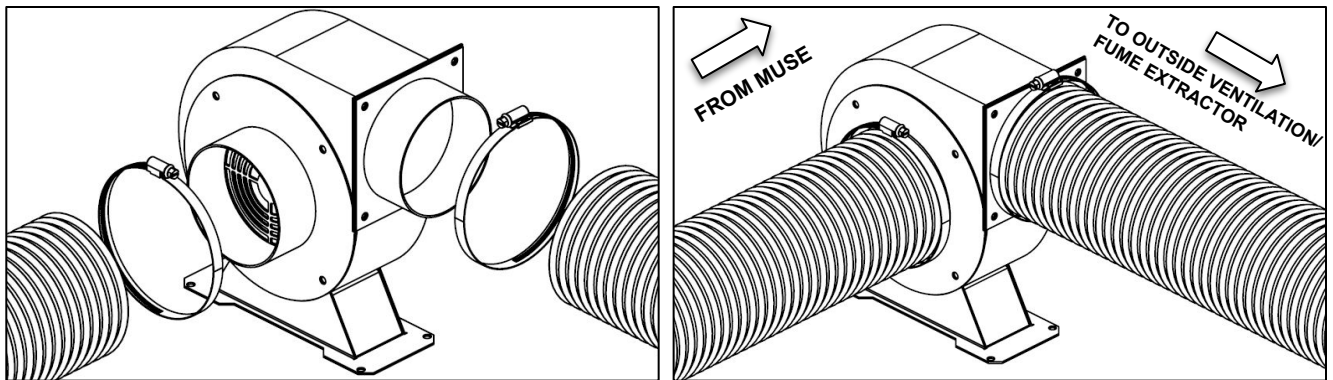

Fig. 4
3. **Attach Exhaust Fan:** Secure the free end of the ducting to the exhaust fan. Repeat the ducting and clamping process in the other side of the exhaust fan and plug in the fan into the bottom power plug marked "exhaust" on the back of your Muse Core machine. (see Fig. 4).